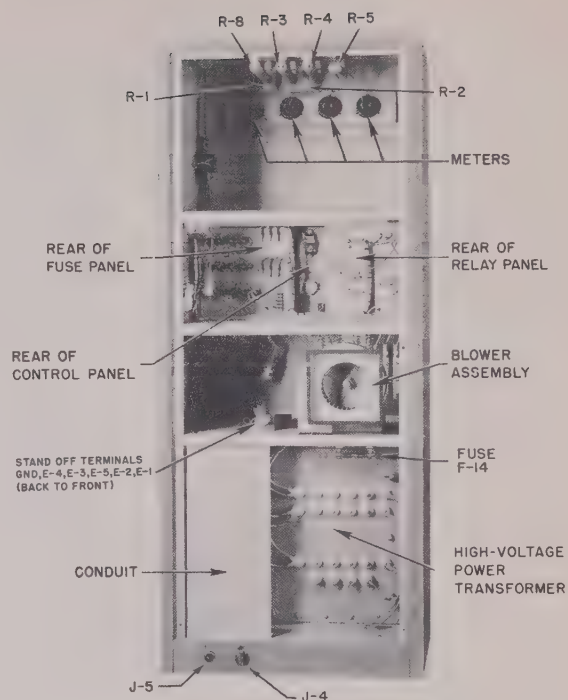

Figure 59. Rectifier Power Unit Model 36D rear view, components removed. (Jacks J-4 and J-5 are optional items)
The illustration at the right (fig. 59) shows the high-voltage power transformer used with the Rectifier system detailed in schematic diagram, figure 94. The Rectifier system shown in schematic diagram (fig. 92) incorporates a different type transformer; ie, terminals are located on the front and access to same is through front door E, shown in figure 10.
a. Localizing Trouble in +4,200-Volt Supply (fig. 59).